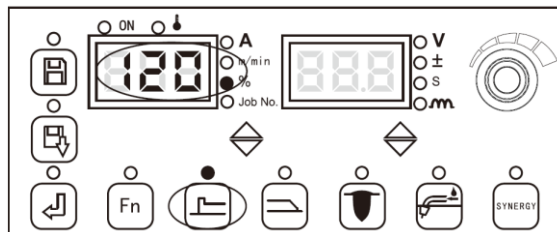

Figure 3-7 Setting screen for % of parameters for arc starting
1. Shortly press the **Parameters for arc starting** key, the indicator for parameters for arc starting and the indicator for “%” are on, then the parameters for arc starting can be viewed, as shown in Figure 3-7.